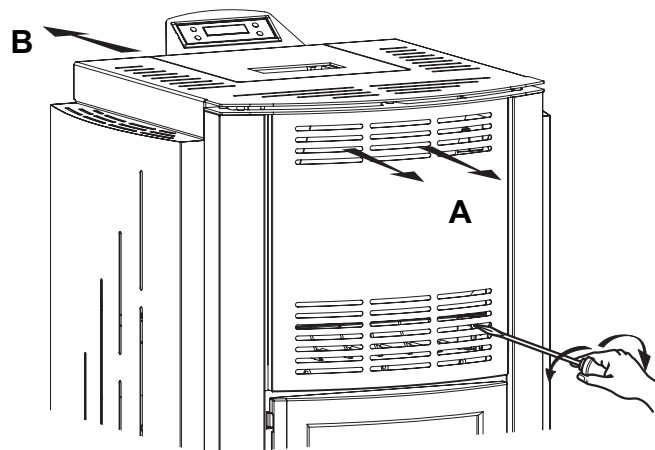

Fig.14.1
One is for heating the room where the stove is installed, Fig.14.1 (A) through the front or top grills (according to the model). The other is used to heat other rooms away from the stove, Fig.14.1 (B), through a system of air ducts.